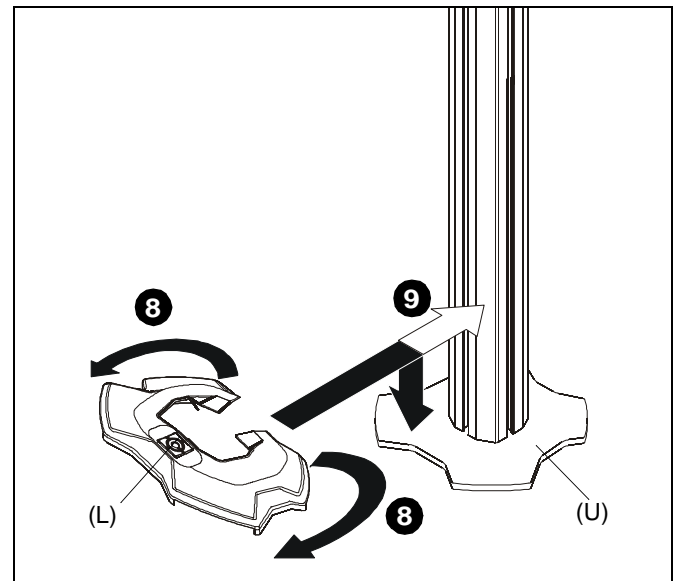

Figure 4
8. Carefully manipulate base cover (L) to create an opening large enough to wrap cover around array column. (See Figure 4)
9. Wrap base cover (L) around column and slide it down until base cover fits securely onto grommet plate (U). (See Figure 4)